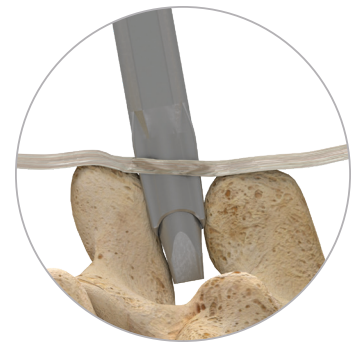
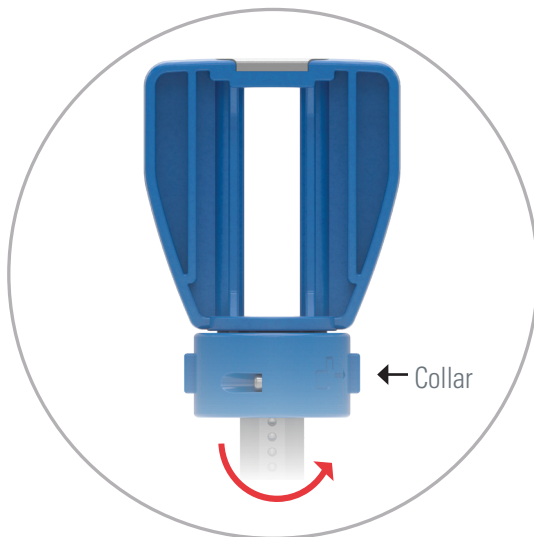

Fig. 4E. Cannula Position Detail
Fig. 4F. Cannula Assembly Handle
2. Advance the Cannula Assembly until the distal tip reaches the dorsal aspect of the facet shadow and is firmly seated between the adjacent spinous processes (Fig. 4E). Use lateral fluoroscopy to monitor depth of insertion. When position is confirmed, remove Dilator. Unlock and remove the Cannula Assembly handle, ultimately leaving only the outer Cannula (hereinafter referred to as Cannula). To unlock the Cannula Assembly, turn the collar on the handle counterclockwise in the direction of the  arrow (Fig. 4F).